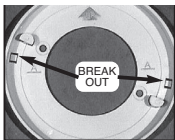
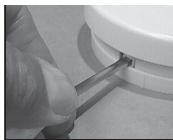

FIGURE 8
FIGURE 9
7. A tamper resist feature has been provided on the alarm. To activate this feature you must break out the tamper-resist blocks on the mounting plate (see figure 8). Use a small screwdriver. Using this feature will deter children and others from removing the alarm from the mounting plate. Please note the tamper-resist tab will have to be released in order to change the battery. Using a tool (small screwdriver) push the tab away from the mounting plate (see figure 9) and rotate the alarm in the "OFF" direction.